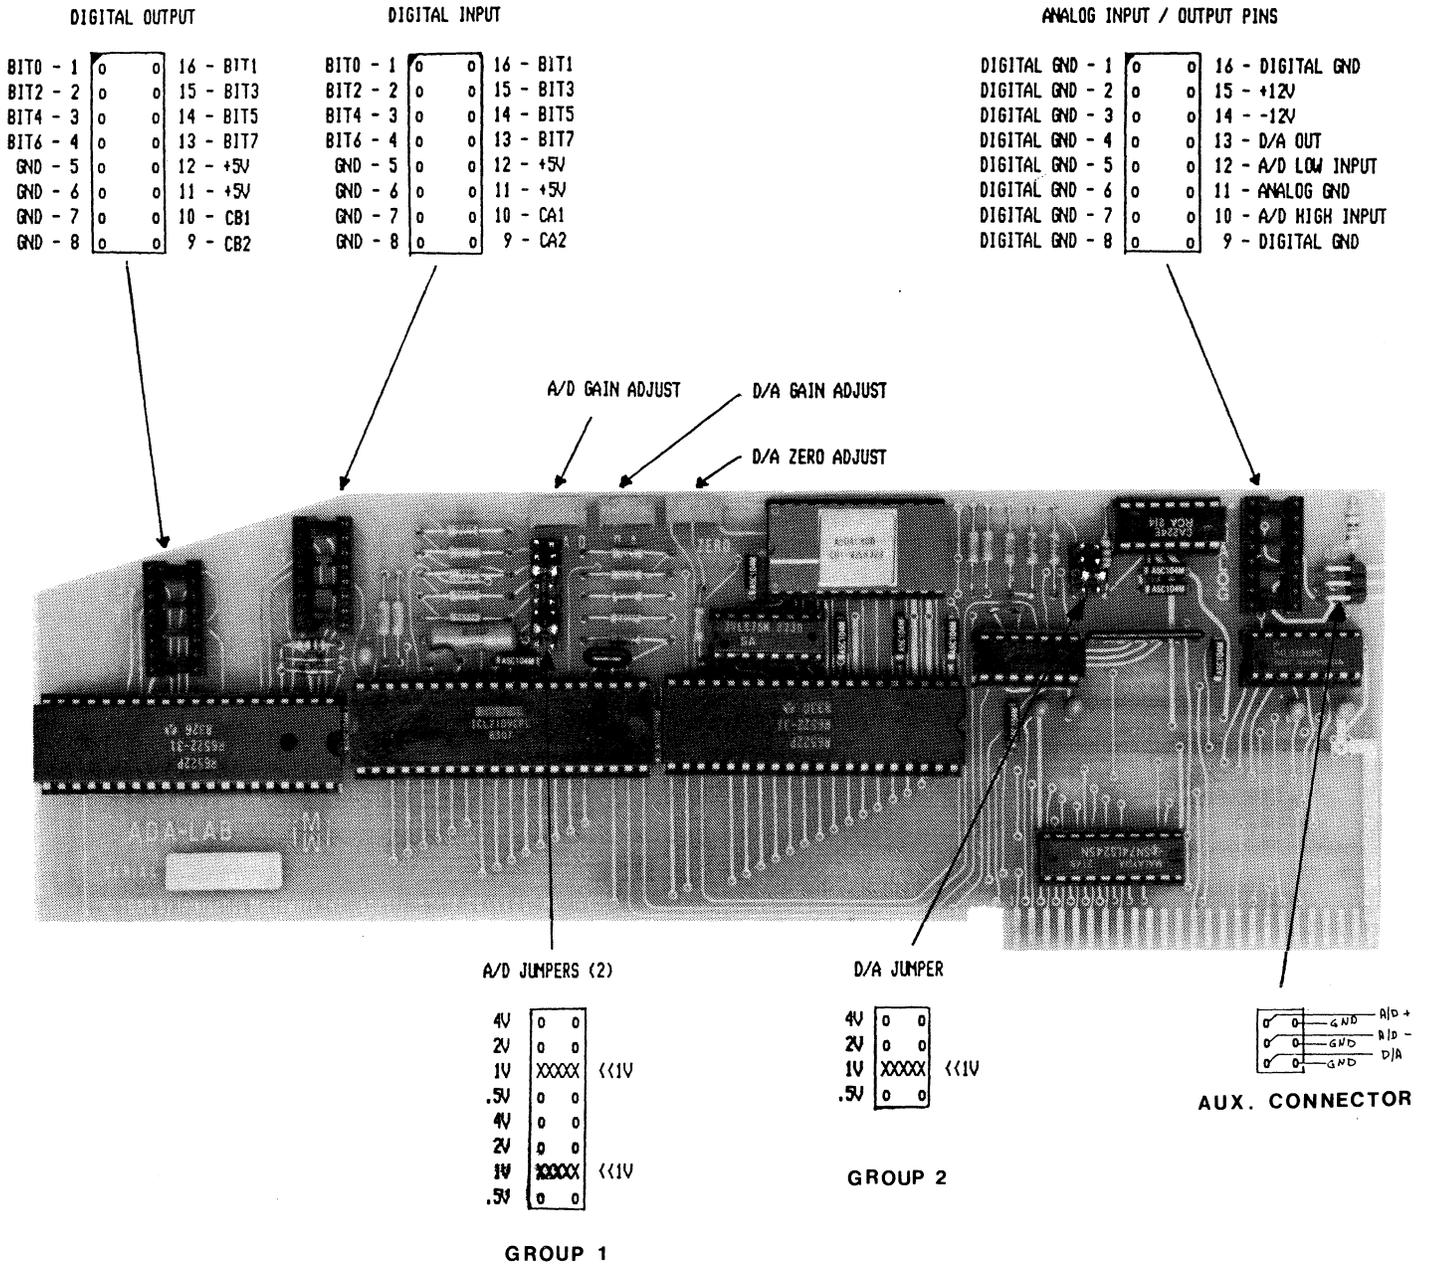
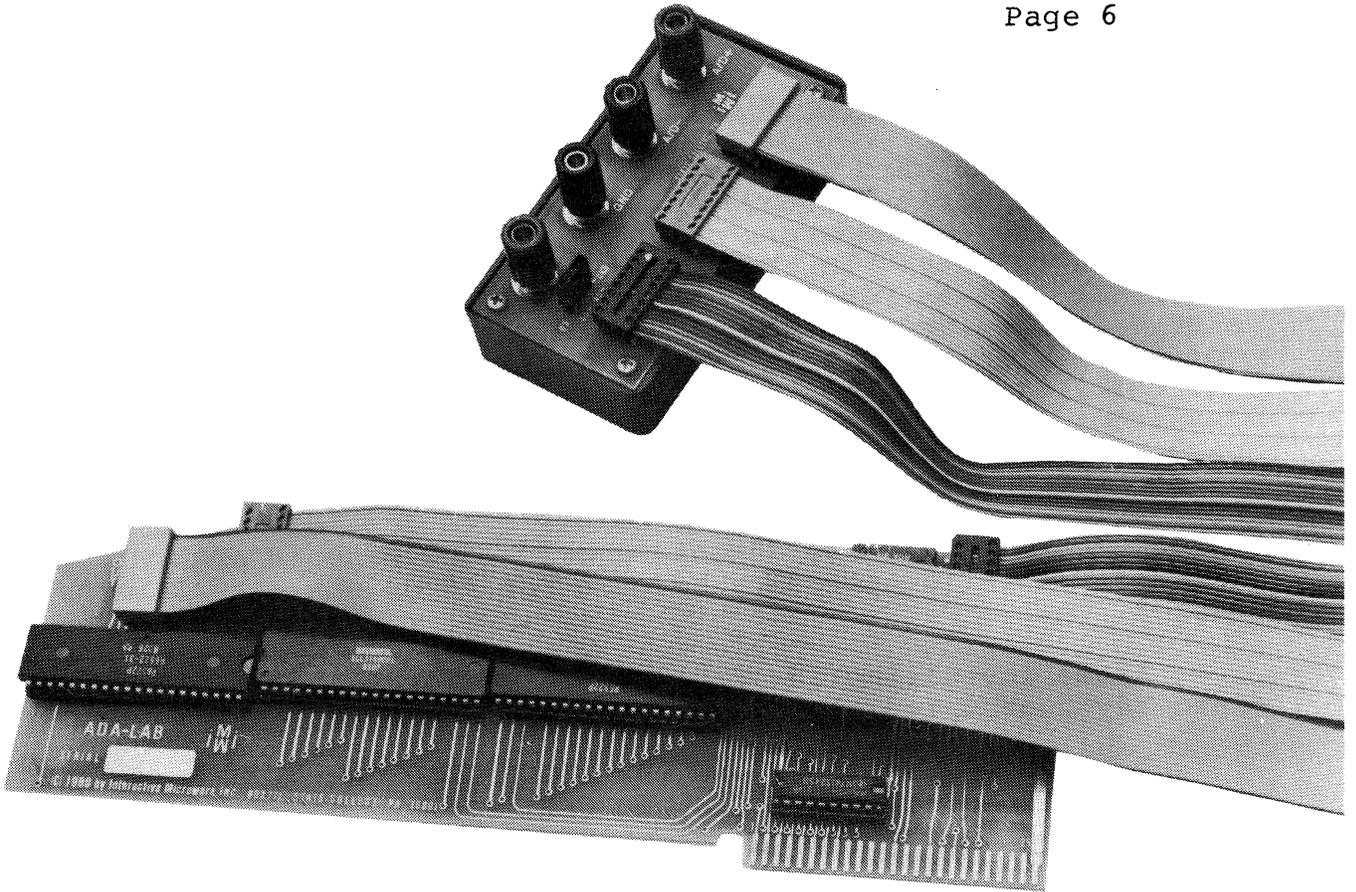

FIGURE 1. The ADALAB Interface Card.
FIGURE 2. Attaching the Cables to ADALAB.
Looking at the ADALAB card on the component side with the gold edge connector at the bottom right, you will see two groups of metal pins on the upper half of the card (see Figure 1). Group 1 consists of 2 vertical columns of 8 pins near the center of the board; Group 2 consists of 2 vertical columns of 4 pins. On some of these pins, you will see black plastic jumpers, which connect pairs of pins together. As shipped, the jumpers are set for the $\pm 1V$ range.
The second group of pins, running vertically on the right (see Figure 1) selects the voltage range for the D/A converter. As was the case for GROUP 1, the voltage range decreases from $\pm 4V$ (top pair) to $\pm 0.5V$ (bottom pair) as you move the single jumper downward.
Looking at the ADALAB interface card or referring to Figure 1, you will note that there are three empty 16-pin sockets which are used for attaching the ribbon cables. The Digital (or Parallel) Output socket (labelled OUT) is at the upper left corner, the Digital Input socket (labelled IN) is directly to the right of it, and the Analog Input/Output socket (labelled ANALOG) is at the upper right corner of the ADALAB card. The signals on each pin of these sockets are summarized in Figure 1 and in Table I and II. Pin 1 is in the upper left corner of each socket. It is IMPORTANT to connect the cables in such a way that pin 1 of the cable plug (the pin marked with a white dot) is inserted in the upper left corner of the socket (the corner that is marked white.) Since the plugs on the two ends of the cable are opposite in orientation, it is possible to plug in the cables so that they extend either to the left or to the right. As shown in Figure 2, you should plug in the end of the cable that makes the cable extend to the right (toward the back of the computer.)
(see Figure 2)
If calibration is shown to be necessary through QUICKSAMPLE self-testing or after changing the voltage range jumper options, it is necessary to recalibrate the D/A and A/D converters. Take a look at Figure 1 and notice that there are 3 plastic potentiometers labelled A/D, D/A and ZERO, at the top near the center of the ADALAB board. Remove the cover of your Apple computer and find these potentiometers on the ADALAB card; note that the adjustment screws face upward so that you can adjust
1. The first step of the calibration procedure involves adjusting the zero offset of the D/A converter. Therefore, enter 0 as the OUTPUT VOLTAGE and press RETURN. The screen will display a histogram showing the deviations of successive A/D values from the initial A/D value. During the calibration procedure, you should ignore everything except the value labelled V1 at the bottom of the screen; this is the current A/D value. Adjust the ZERO pot (nearest to the back of the computer, see Figure 1) to yield a value $V1=0$. Then, press RETURN to return to the QUICKSAMPLE menu.
2. Next, we shall calibrate the D/A full scale voltage. Select option 8 (STABILITY TEST) again and enter 2047 as the OUTPUT VOLTAGE. The voltage reading on your voltmeter should now measure close to the maximum voltage that you have selected by means of the D/A jumper. To adjust the maximum D/A voltage, use a small screwdriver to turn the screw on the middle potentiometer (see Figure 1) marked D/A. Turning the screw clockwise decreases the voltage. For example, if the D/A range jumper is set for ± 1 Volt, turn the D/A pot until your voltmeter reads 1.000 Volt.
3. After you have adjusted the D/A converter voltage, you should adjust the range of the A/D converter. This is done by turning the screw on the potentiometer marked A/D, which is closest to the front of the computer (see Figure 1). The A/D converter reading ($V1=$) is printed on the screen, and you should turn the screw until $V1=2045$ (slightly less than the maximum value of 2047). Turning the screw clockwise decreases the value of V1. If
The following section describes some of the many ways to connect external signals to ADALAB. Consult Figure 1 and Tables I and II for information about which signals are on which pins of the cables and connectors. Pin 1 is generally denoted by a white dot or a 1.
For analog signals, a special 6-pin connector is available on the edge of the ADALAB card closest to the back of the computer. The signal appearing on each of these six pins is indicated in Figure 1. Shielded cables that mate with these pins are available from IMI.